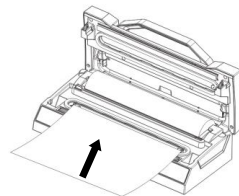

Fig.1
3. Place the open end of the bag within the vacuum chamber area. Make sure the air intake is not covered by the bag. – **Fig. 1**